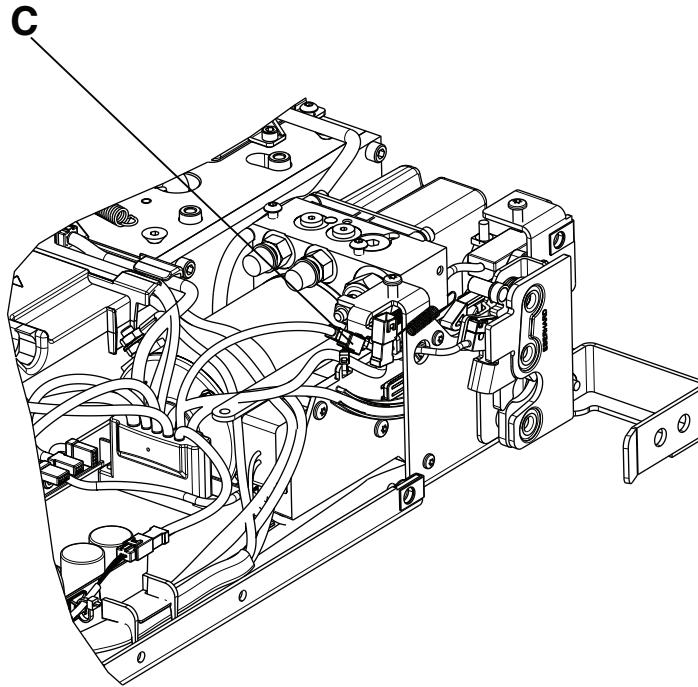

Figure 13: Main cable assembly
- Unplug the cable (C) from the trolley actuator to the main cable assembly (Figure 13 on page 48).